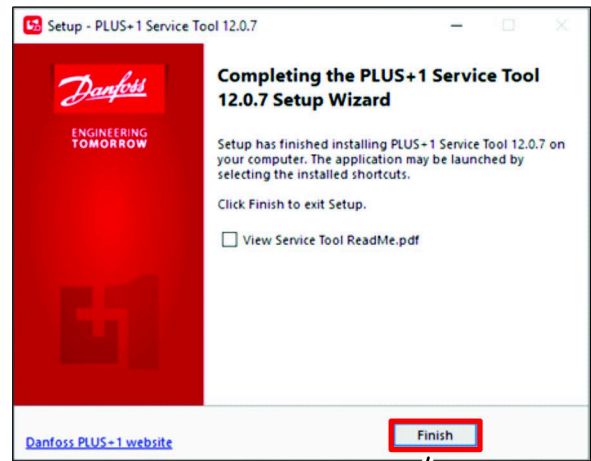

Figure 33
4. In the Completing Service Tool Setup Wizard dialog box, click the FINISHED button (Figure 33).